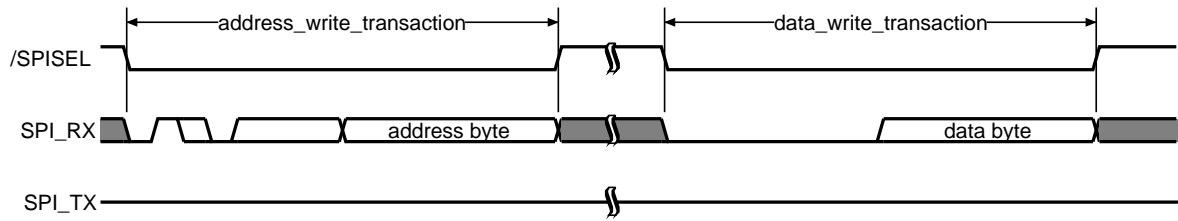

Figure 2.14: Register write access (transaction sequence)
1. A register write access is a sequence of two SPI write transactions as shown in Figure 2.14. With the first transaction the SPI master specifies the register address (control byte is '01X0CCCC'). Afterwards, the new register value is transferred from the SPI master to XHFC-2SU (control byte is '0000 0000').
Figures 2.14 to 2.16 show $/\text{SPISEL} = '1'$ between the transactions. This splits the sequence into an address write transaction and one or several data write transactions. The split time has an arbitrary duration. It can also decrease to zero, which means that $/\text{SPISEL}$ remains '0' for several transactions.